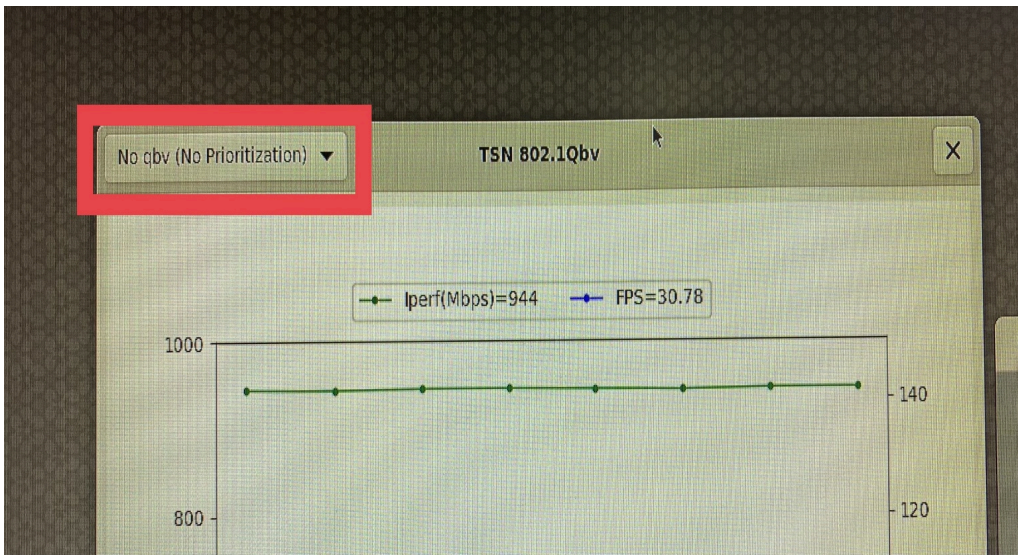

Figure 43. Configuration dropdown button
- To change the TSN Qbv configuration, select the dropdown by clicking the configuration dropdown button. After clicking the button, you can see the UI (Figure 43).